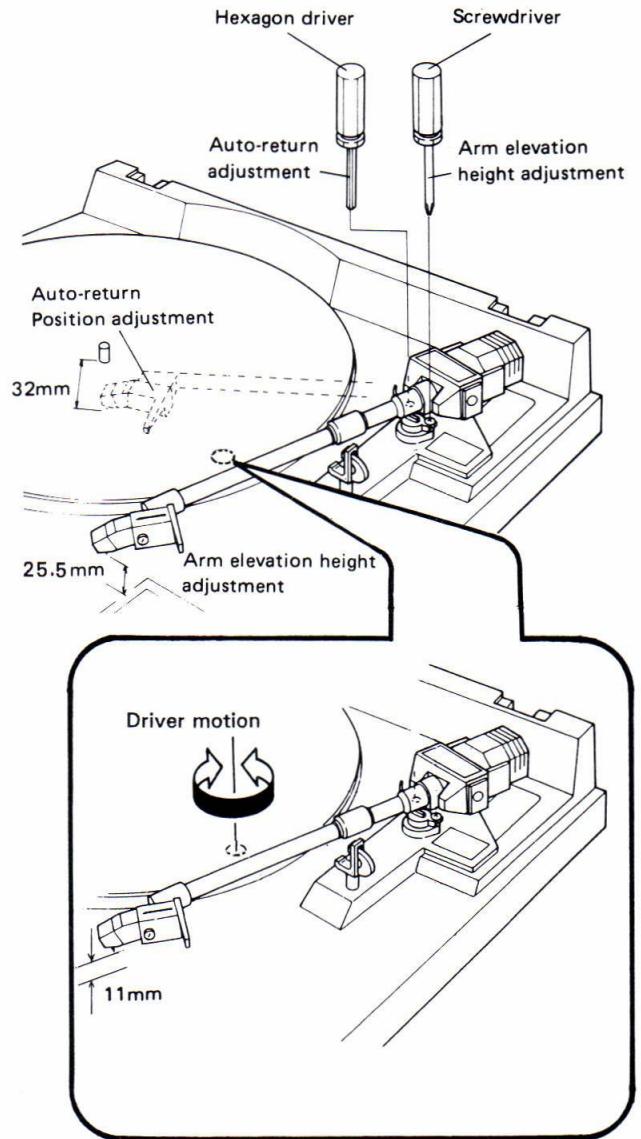

Fig. 8-3 Arm elevation height adjustment and auto-return adjustment
5. Stop turning the adjustment screw at the point at which there is a space of 32 mm between the cartridge stylus and the center shaft. (Fig. 8-3)
2. Adjust the screw under the turntable so the stylus is 11 mm above the panel. When the adjustment screw is turned counterclockwise, the stylus rises. (Fig. 8-3)
4. Adjust the screws next to the arm elevation switch so the stylus is 25.5 mm above the panel. (Fig. 8-3)